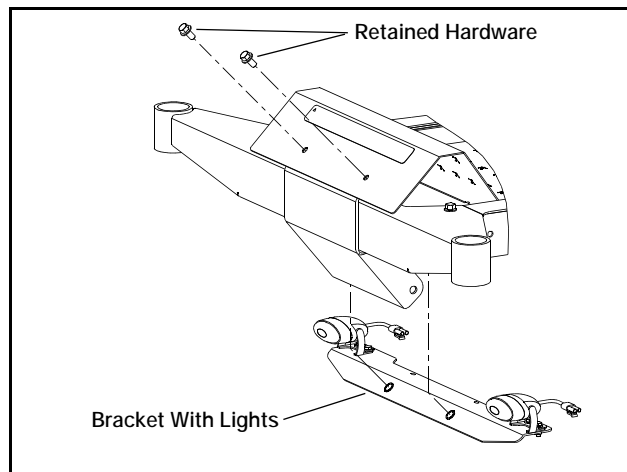

FIG. 14
- Assemble the bracket with lights to the mower using the .375" bolts from the previous step. (FIG. 14)